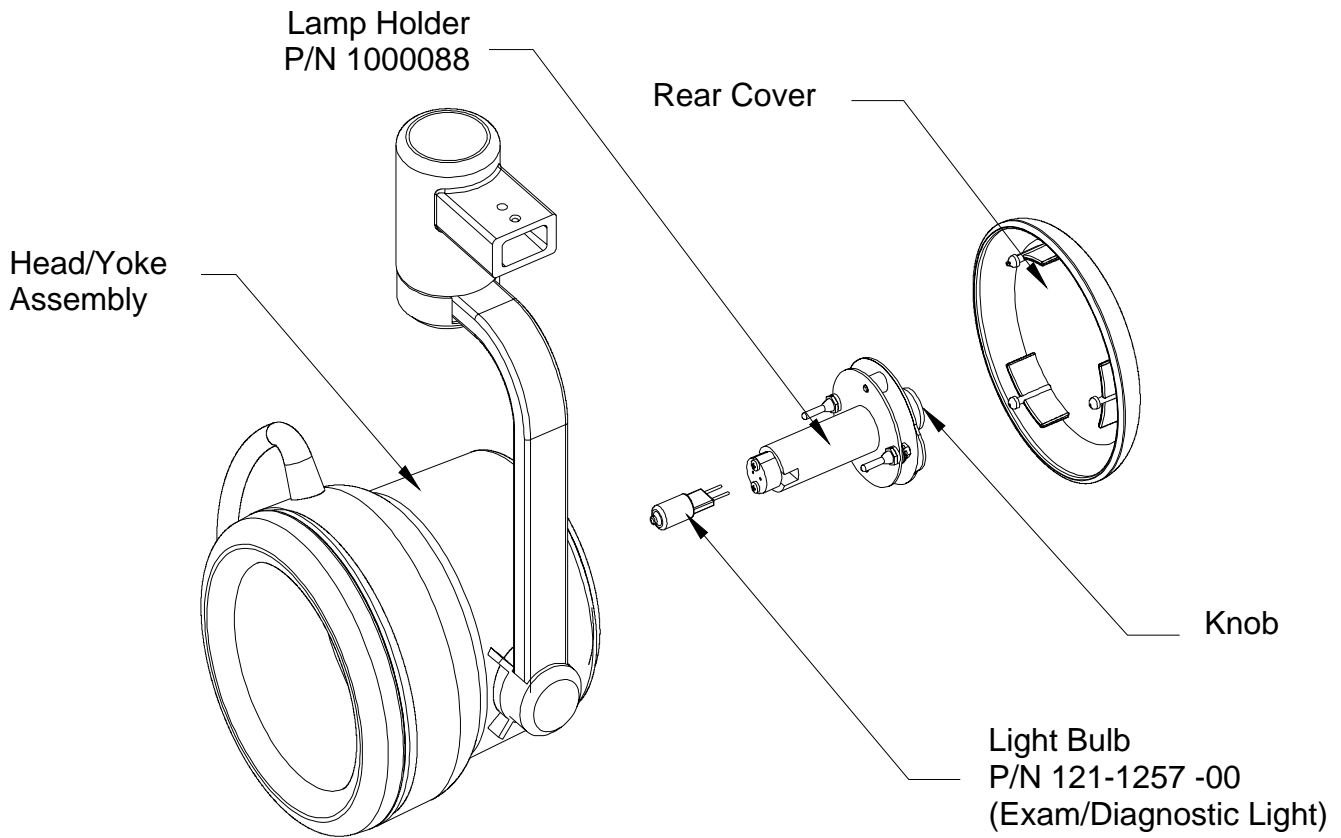

FIGURE 34: VSSI Exam/Diagnostic Light Lamp Replacement
- Twist the rear cover counter clockwise approximately 7 degrees to unlock the rear cover and remove it from the head as shown in figure 34.